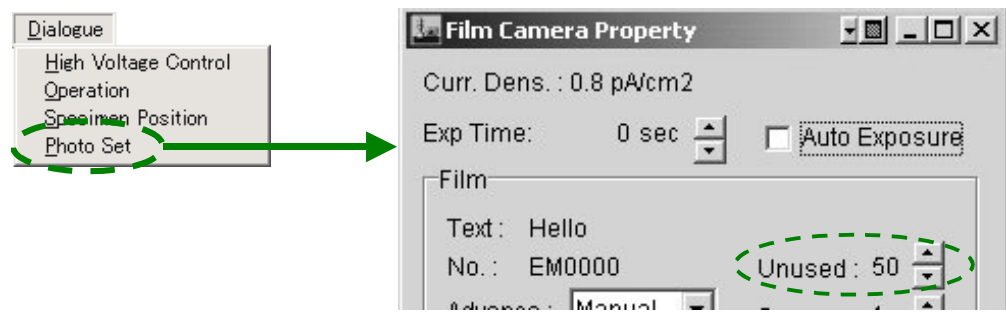

Fig. 5.4 Entering the number of unused films
8. Input the number of unused films (the number of films loaded in the dispensing magazine) in the **Film Camera Property** window (☞ Fig. 5.4 in Sect. 4.3.5b).